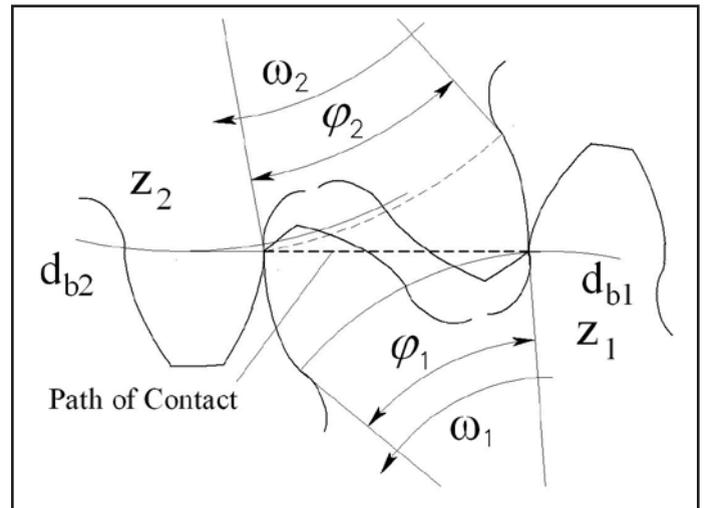

Figure 5 Pinion and gear engagement angles.
- $\varphi_1$  and  $\varphi_2$  – pinion and gear engagement angles (Fig. 5)